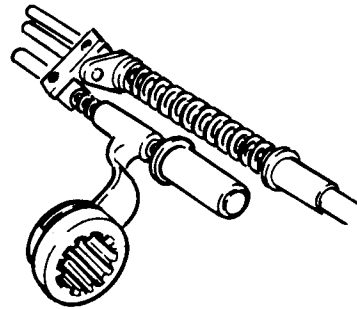

Fig H1.111
- (1) Refer to Fig H1.111. Join the two selector shafts, by means of the rocker and special bolts.